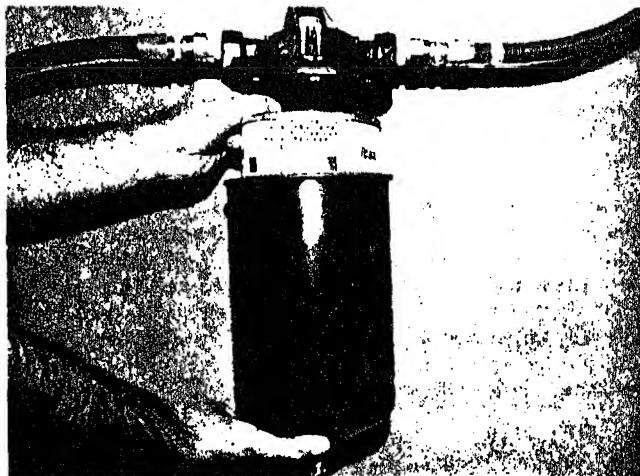

Fig. 5-14. Installing replaceable element fuel filter
2. Loosen nut at top of fuel filter. Take out dirty element, clean filter case and install a new element. Fig. 5-14.